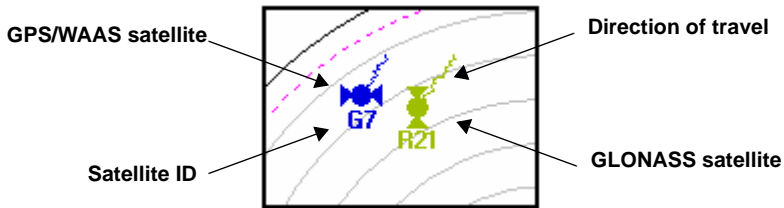

Figure 3-49. GPS and GLONASS Satellite Icons
- GPS and GLONASS satellite icons: displays the type of satellite being tracked, the direction of travel for the satellite, and the satellite's ID (Figure 3-49 on page 3-91). The color of the satellite icon corresponds to the colored bars in the *signal-to-noise ratio histogram*.